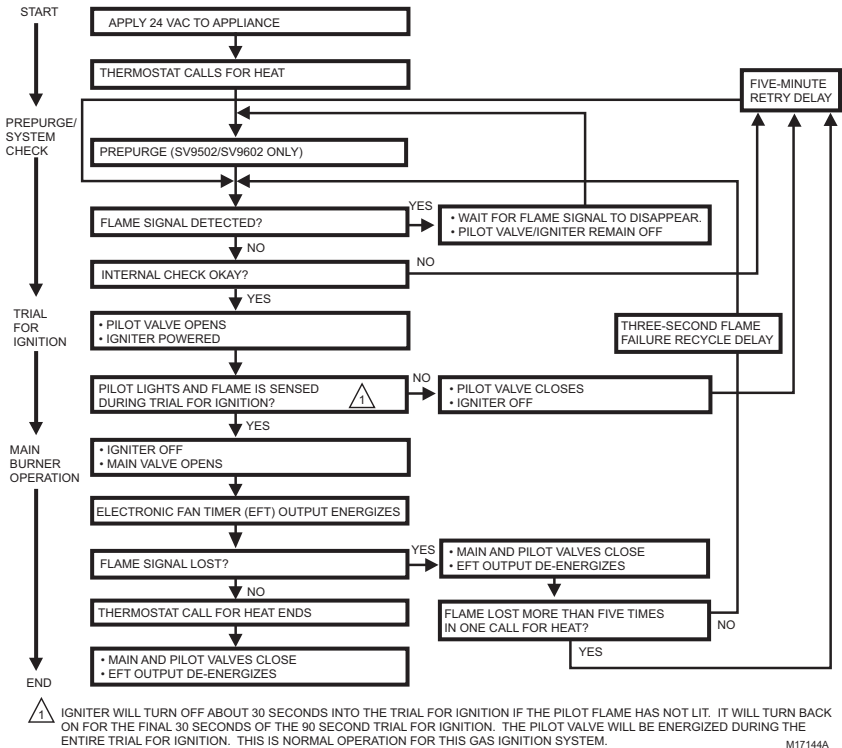

Fig. 14. SV9501/SV9502/SV9602/SV9601 SmartValve™ Sequence of Operation.
- Follow the sequence of operation shown in Fig. 14.
9. Follow the Operating Sequence and Troubleshooting flow chart in Fig. 14 and 16 for the replacement SV9501/SV9502/SV9601/SV9602 SmartValve™.